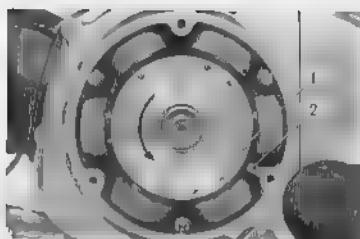
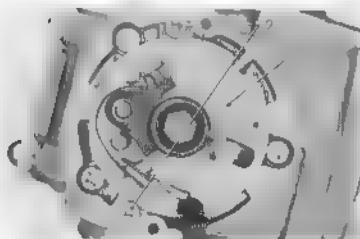

Fig. 5.6 Adjusting the ignition timing.
Fig. 5.7 Adjusting the ignition timing.
- b. With the dynamo cover removed, rotate the generator rotor counter-clockwise until the "F" mark ① on the flywheel lines up with the alignment mark ② on the stator (Fig. 5.6). In this position, the breaker point should just commence to open. This can be checked with a thin thickness gauge. If adjustment is necessary, loosen the base plate screws ② and rotate the base plate ① by inserting a screwdriver into the adjusting slot to obtain the proper timing. (Fig. 5.7)